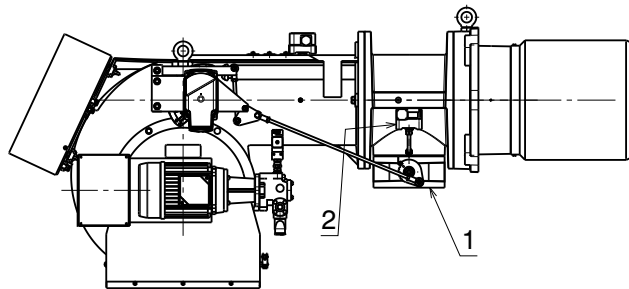

Fig. 26
Gas pressure measured at test point 2)(Fig. 26), with:
Pressure drop at gas butterfly valve 1)(Fig. 26) with maximum opening: 90°.
- subtract the combustion chamber pressure from the gas pressure measured at test point 2)(Fig. 26).
To calculate the required gas pressure at test point 2)(Fig. 26), set the maximum modulating output required from the burner operation:
- Read, on the right (column 1), the pressure at the test point 2)(Fig. 26).
pressure required at test point 2)(Fig. 26).